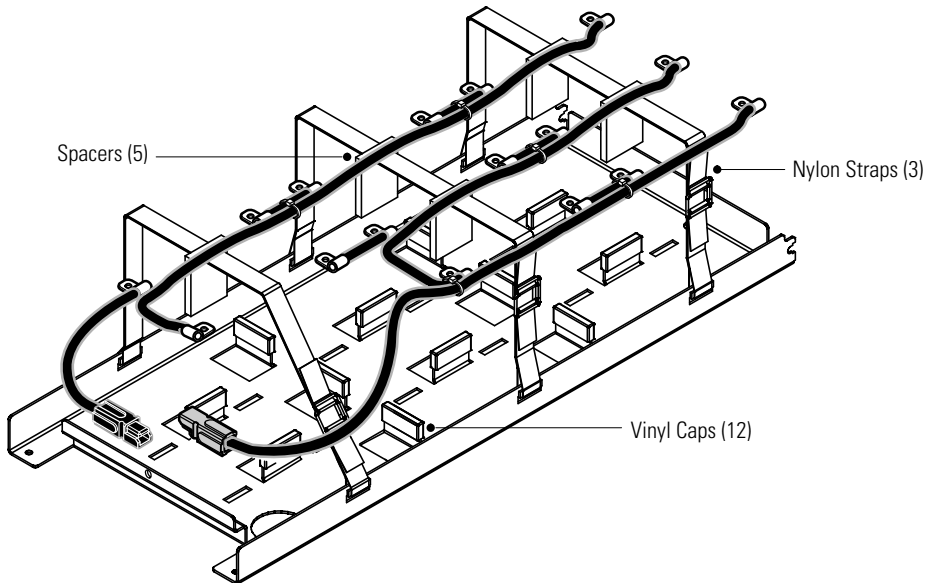
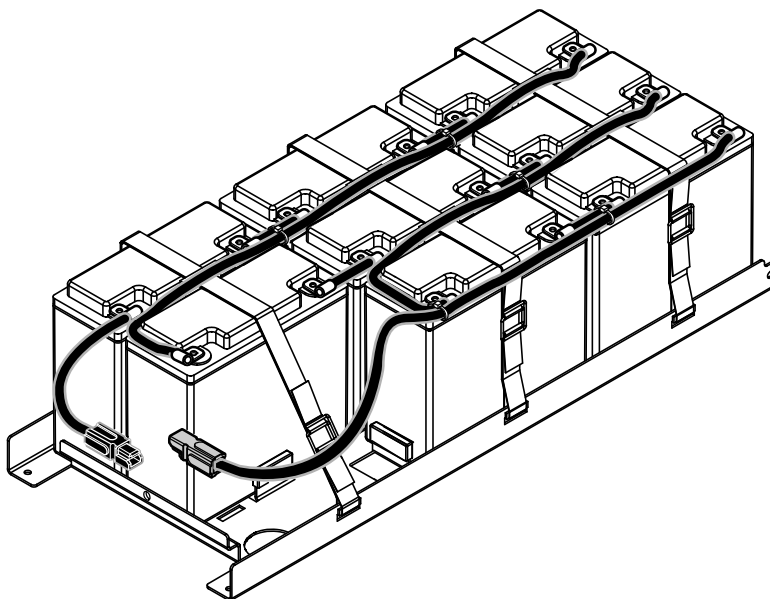

Figure 46. Battery Tray without Batteries
Figure 47. Battery Tray with Batteries
11. Disconnect the batteries from the wiring, and loosen the 3 nylon straps. Retain the wiring, straps, spacers and vinyl caps. See Figure 46 and Figure 47.
14. Verify that 12 vinyl caps are installed on the battery tray dividers as shown in Figure 46.
15. Insert eight batteries into the battery tray (see Figure 47).
16. Connect the batteries in the tray as shown in Figure 46 and Figure 47.
17. Secure the batteries to the tray, using 5 spacers and 3 nylon straps. See Figure 46 and Figure 47 for spacer and strap placement.